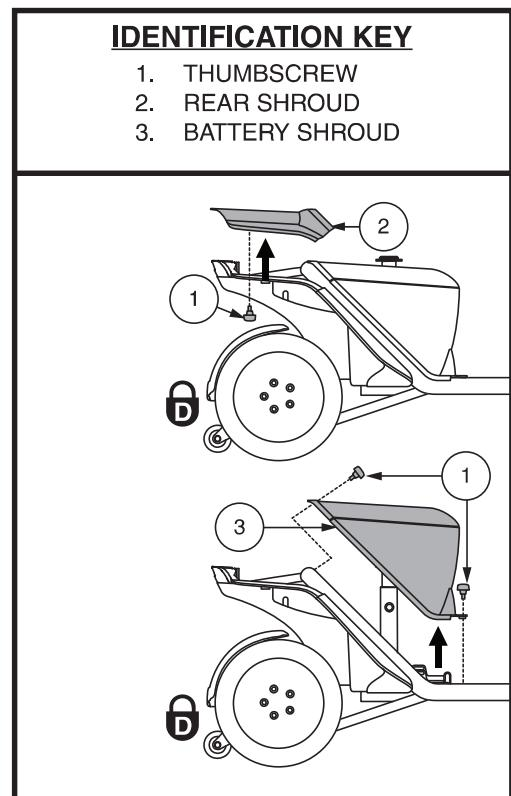

Figure 12. Battery Shroud Removal/Installation
2. Remove the rear shroud by lifting it straight up and off the vehicle. The shroud is secured to the vehicle with reusable fasteners and two (2) thumbscrews. **See figure 12.**
3. Remove the battery shroud by removing the four (4) thumbscrews that secure it to the vehicle frame, and then lifting the shroud straight up and off of the vehicle. **See figure 12.**